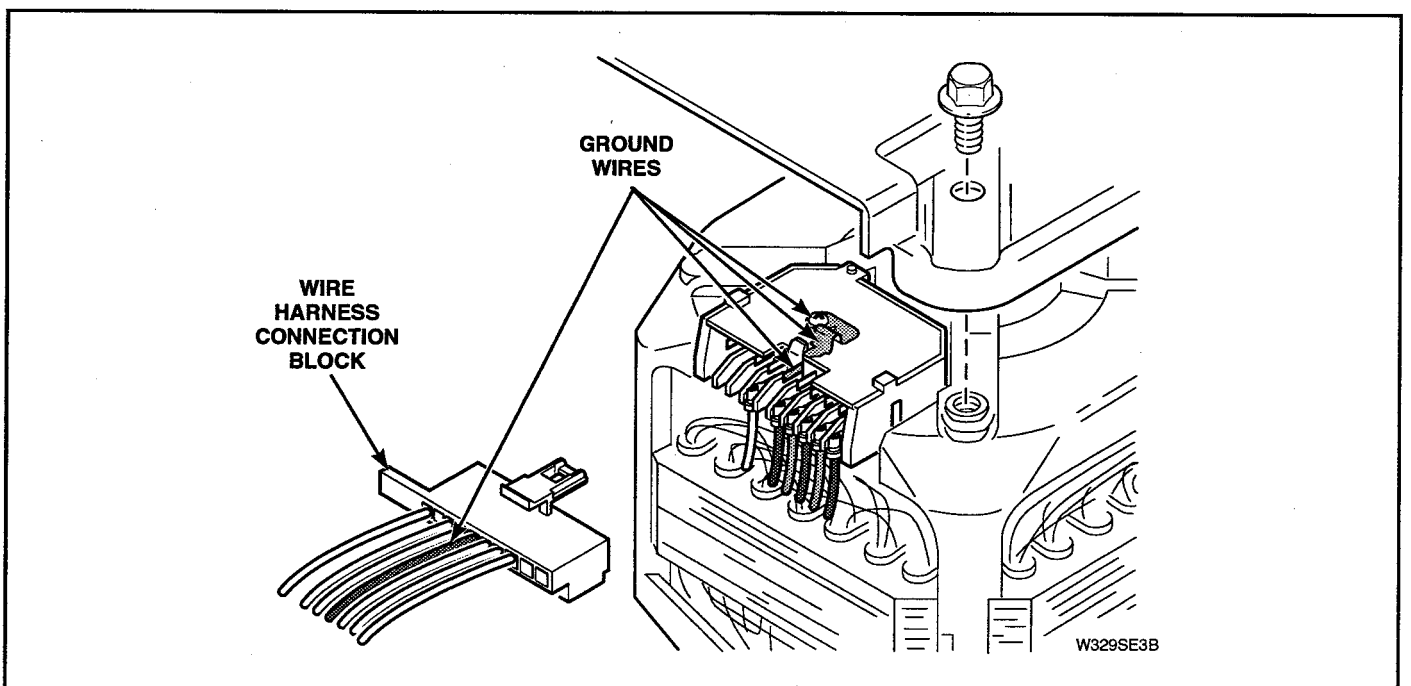

Figure 4-4
4. WIRE HARNESS TO MOTOR. See Figure 4-4.